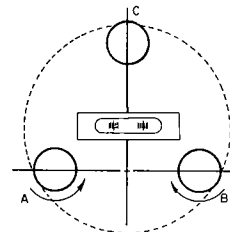

Figure 3
2. Position telescope level vial so that it is in line with leveling screws A & B (see Figure 3).